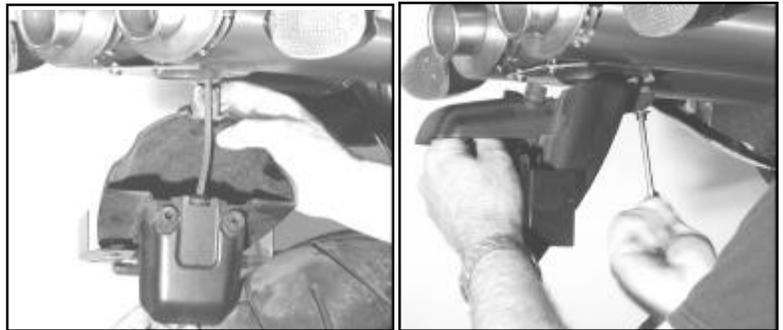

Figure 15
19. Reinstall the rear fender extension. Figure 15.